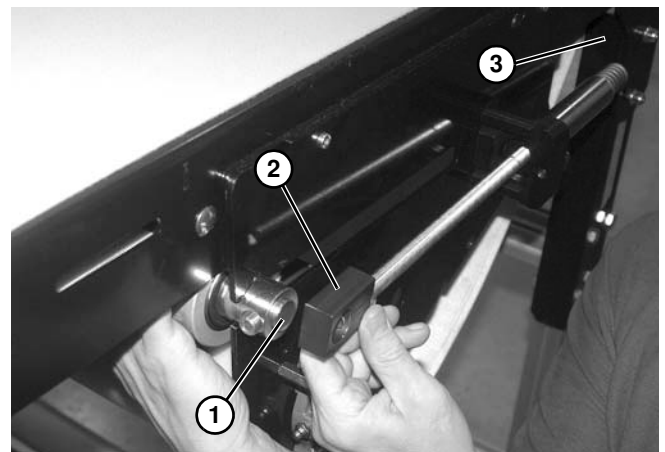

Figure 155
7. Push shaft (**Figure 155, item 1**) through block (**Figure 155, item 2**), and slide block towards tensioner block (**Figure 155, item 3**).